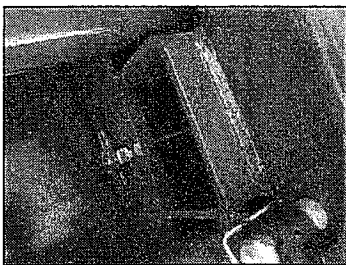

Fig. 7
4. Put the cylinder through the base and the carriage. Using nut and pin to fix the cylinder with base and carriage. (Fig. 7 & 8)